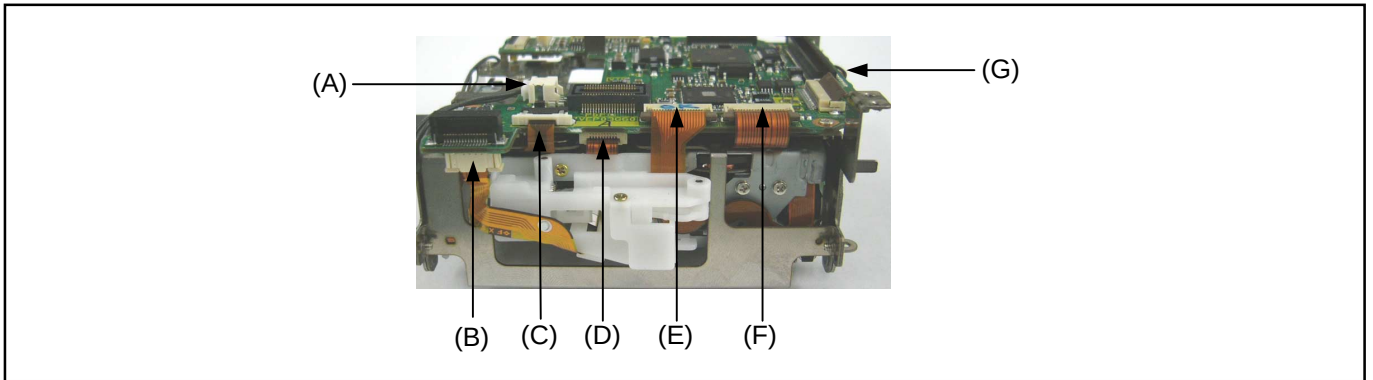

Figure 11-2
12. Disconnect the 7 connectors (A),(B),(C),(D),(E),(F) and (G) on VTR C.B.A. as shown in figure 11-2.